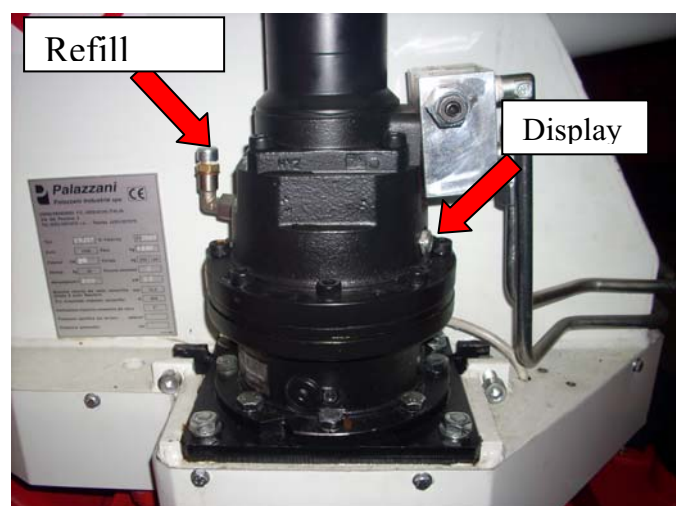

Fig. 6.7
- Check the play between the reducer and the slewing; set the equipment in work position and execute the boom rotation manoeuvre. Check that when you leave the command, the rotation stops and does not produce strange plays. If you notice any play, it is necessary to set the reducer closer to the slewing. Check the oil level from the visor as shown in fig 6.7; the oil must be visible, if not, top up from the proper cap.